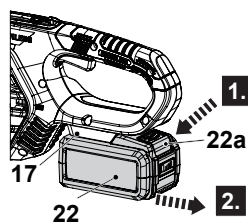

Fig. 14
2. Press the release button (22a) and remove the battery pack (22) from the battery docking port (17) (Fig. 14).